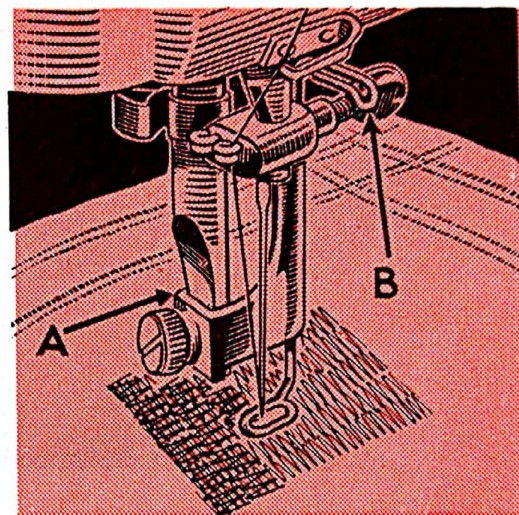

FIG. 40
Fit the darning attachment (Fig. 40) to your "SEWMATIC" so that the bracket (A) (Fig. 40) is clamped to the presser bar in the same way as the ordinary foot, and the spring (B) passes over the needle clamp as shown. The needle must be raised for this operation, but not to its fullest height as the spring (B) must be lifted to be fitted over the needle clamp. Fit embroidery throat plate (No. 9, page 35). Set fabric selector to EMBR. position.